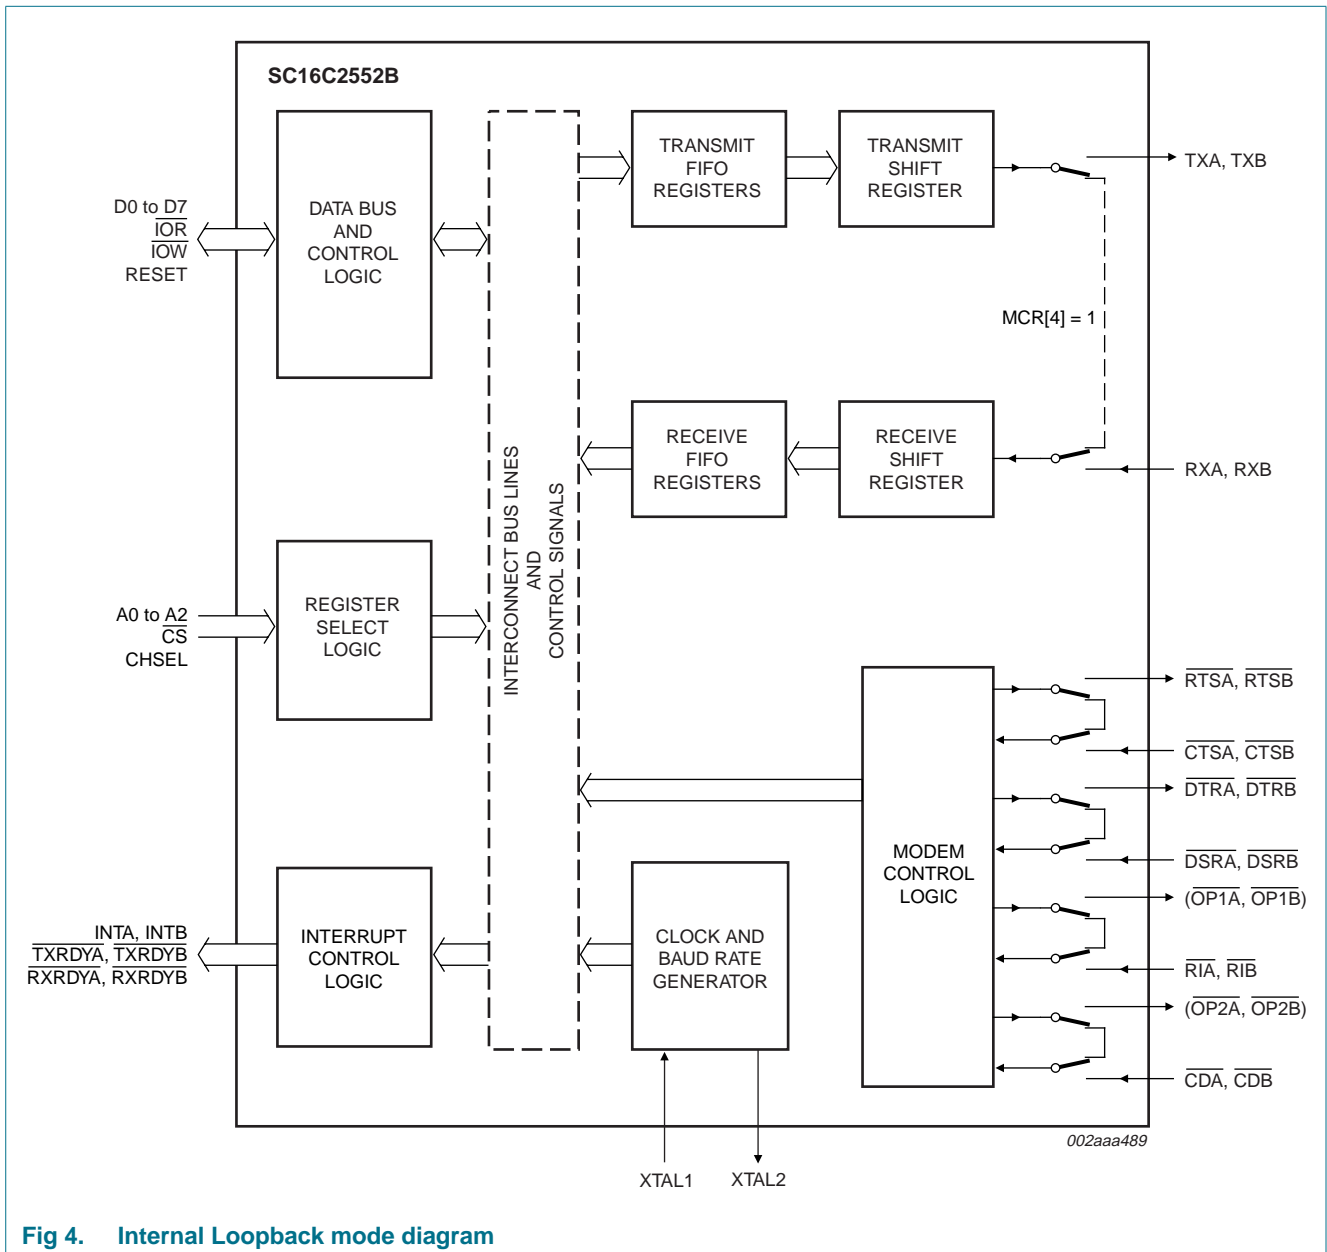

Fig 4. Internal Loopback mode diagram
The internal loopback capability allows on-board diagnostics. In the Loopback mode, the normal modem interface pins are disconnected and reconfigured for loopback internally. MCR[3:0] register bits are used for controlling loopback diagnostic testing. In the Loopback mode, INT enable and MCR[2] in the MCR register (bits 3:2) control the modem \overline{RI} and \overline{CD} inputs, respectively. MCR signals \overline{DTR} (bit 0) and \overline{RTS} (bit 1) are used to control the modem \overline{DSR} and \overline{CTS} inputs, respectively. The transmitter output (TX) and the receiver input (RX) are disconnected from their associated interface pins, and instead are connected together internally (see Figure 4). The \overline{CTS} , \overline{DSR} , \overline{CD} , and \overline{RI} are disconnected from their normal modem control inputs pins, and instead are connected internally to \overline{RTS} , \overline{DTR} , $\overline{OP2}$ and $\overline{OP1}$. Loopback test data is entered into the transmit holding register via the user data bus interface, D0 to D7. The transmit UART serializes the data and passes the serial data to the receive UART via the internal loopback connection. The receive UART converts the serial data back into parallel data that is then